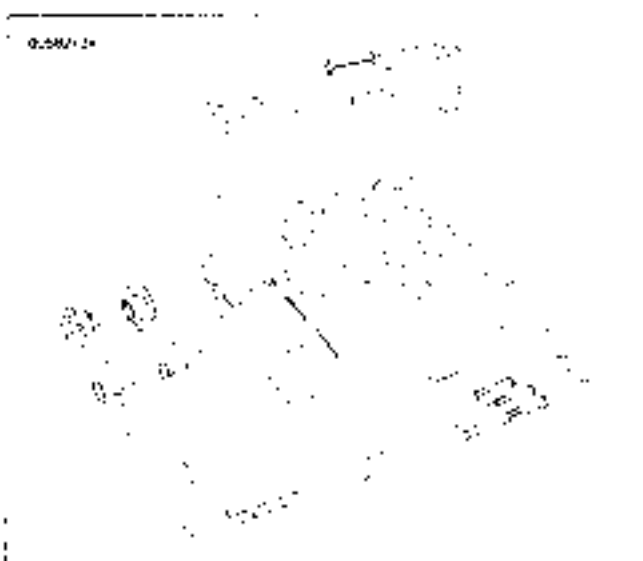

Figure 3-101. Neway Valve Seat Cutter Set
7. See Figure 3-101. Obtain the NEWAY VALVE SEAT CUTTER SET (Part No. HD-39758-B). Choose the cutter pilot that fits properly into the valve guide hole. Securely seat the pilot by pushing down and turning using the installation tool supplied in the tool set.